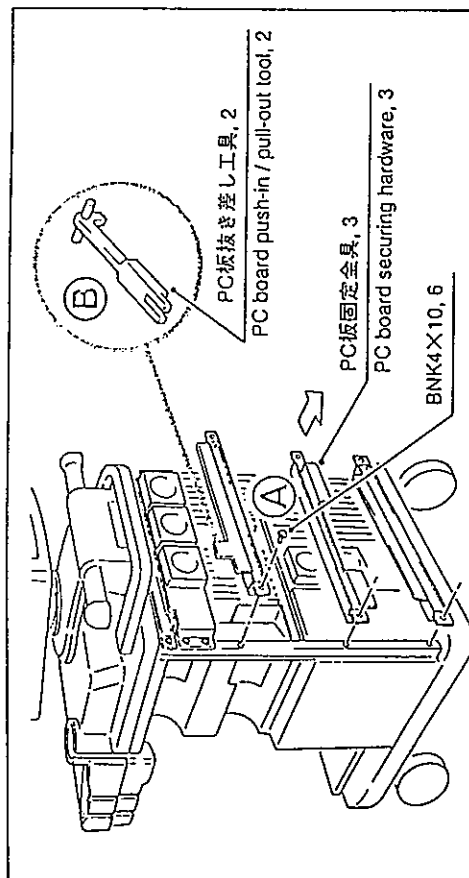

図13 Fig. 13
- (1) PC板固定金具3本を、ねじ各2本を外して取り外す。(図13Ⓐ)
- (2) PC板抜き差し工具2個を、PC板固定金具の図の位置裏側にクランプする。(図13Ⓑ)
- (1) Unfasten 2 screws and remove 3 pieces of PC board securing hardware. (Ⓐ in Fig. 13)
- (2) Remove 2 pieces of PC board push-in / pull-out tool from clamp on the back of PC board securing hardware. (Ⓑ in Fig. 13)